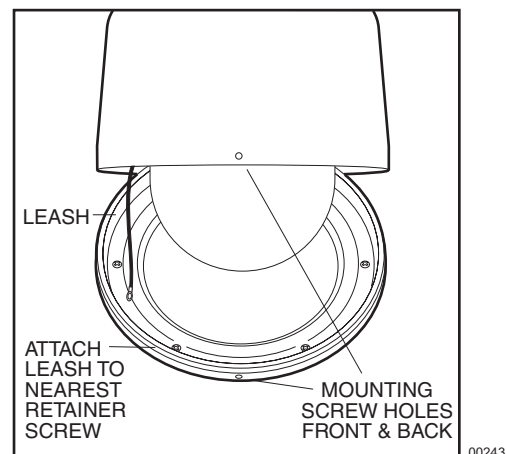

Figure 2. Lower Dome Installation, Pendant Models
2. Refer to Figure 2. Hanging down from the back box is a short cable (the trim ring leash). Hold up the lower dome near the back box so that the trim ring leash touches the lower dome. Line up the two screw holes in the trim ring of the lower dome with the two screw holes in the back box. Place a finger on the edge of the trim ring where the leash touches the lower dome.